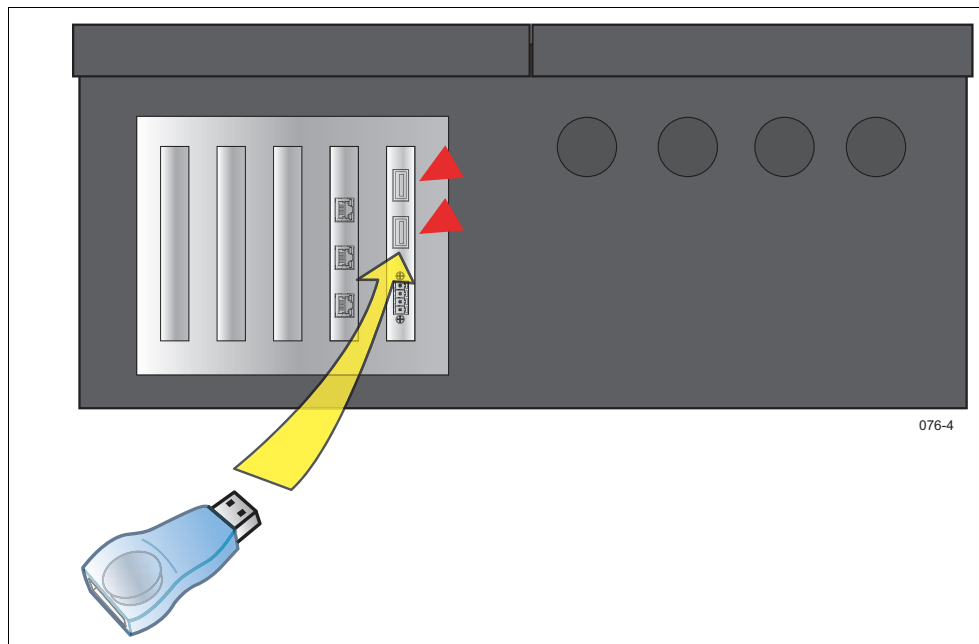

Figure 20. Insert the iButton Adapter Thumb Drive into a USB Port on the Console
2. Insert the USB Adapter into one of the two USB ports in the bottom of the console as shown in Figure 20 below.